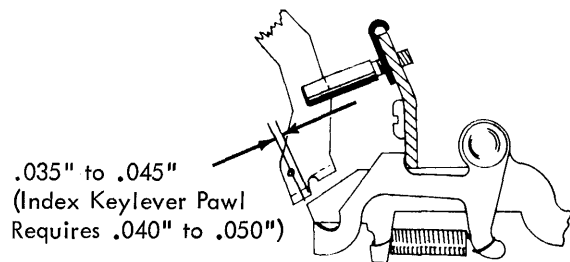

FIGURE 157. Keylever Pawl Overlap Adjustment
1. Keylever Pawl Overlap - Adjust each keylever pawl guide stud so that all the keylever pawls, except the index keylever pawl, overlap their respective interposers by .035" to .045" with both parts at rest (Fig. 157). The index keylever pawl guide should be adjusted for .040" to .050" overlap. The overlap insures proper repeat/non-repeat action.